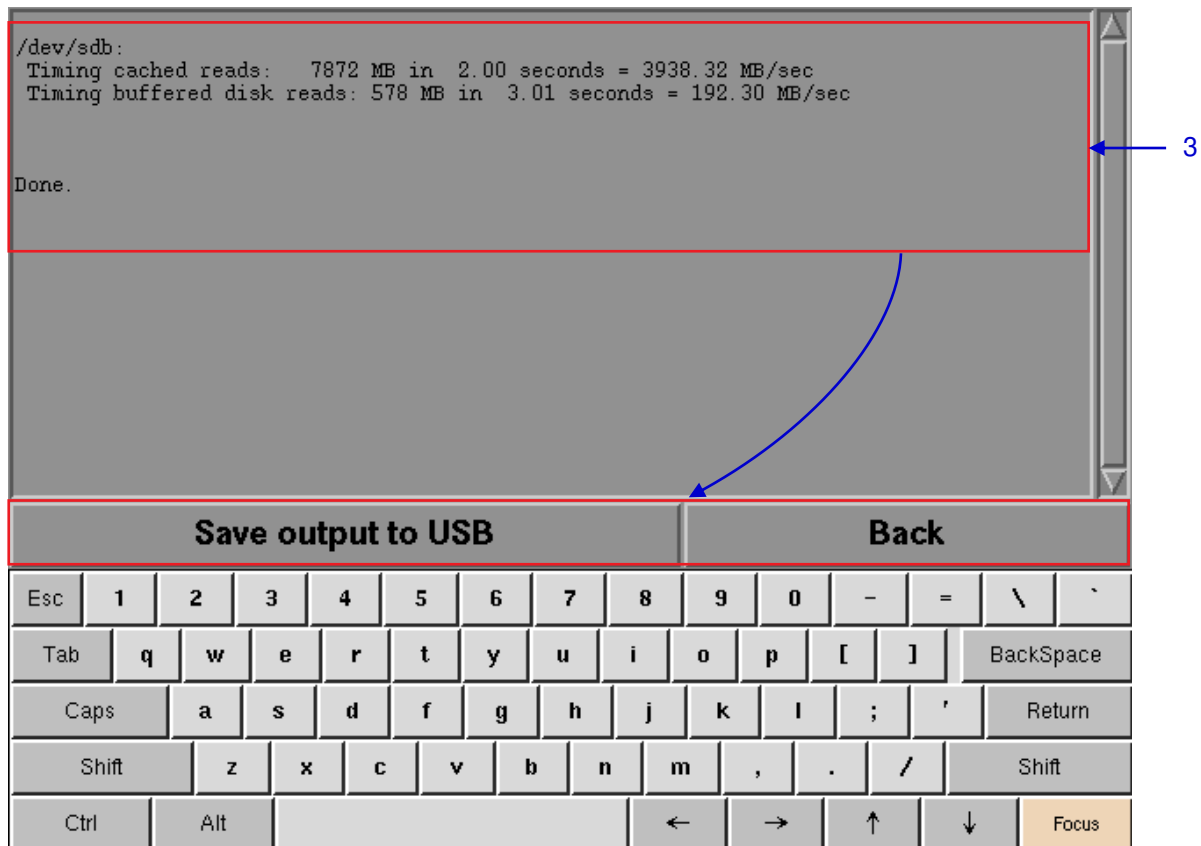

Figure 96 Shows information on storage performance of the selected hard disk.
- 3** A new window showing information on hard disk performance appears as seen in **Figure 96**.